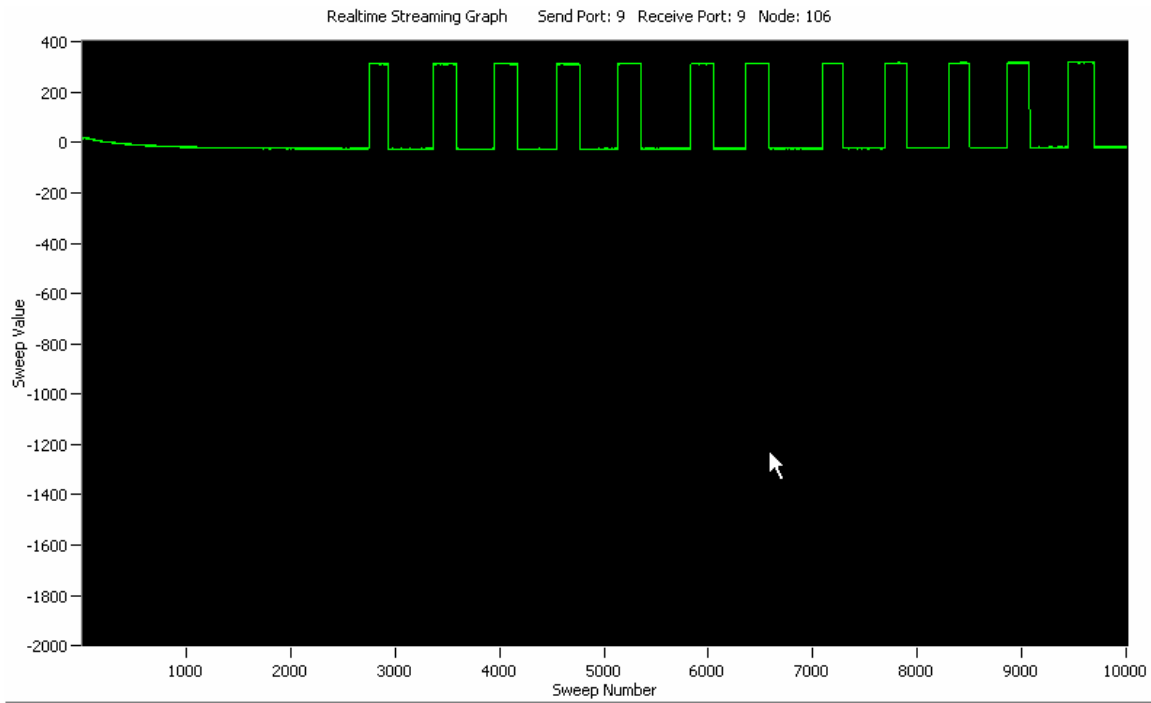

Figure 8
- During the streaming, push in and release several times, the button on the edge of the Tester Board to shunt the resistor in and out of the stream. This will appear as a stepped (green) line as shown in **Figure 8**. Steps will be ~ 350 μ -strain.